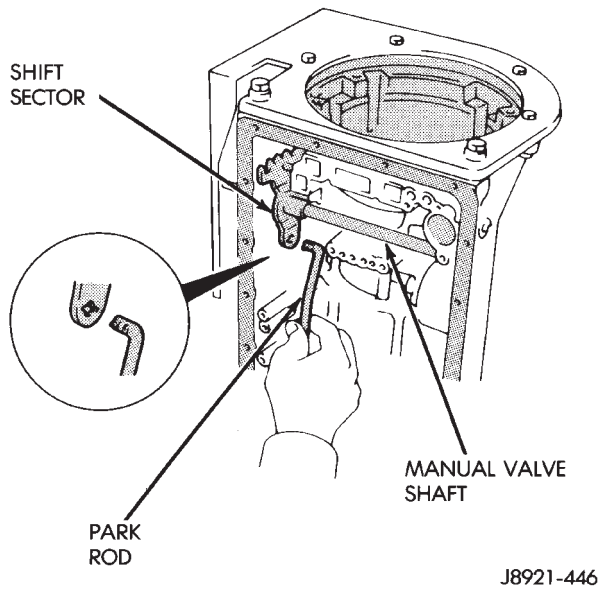
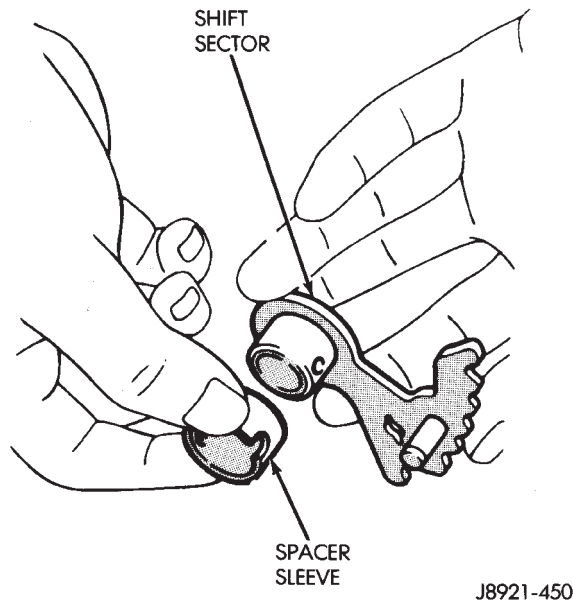

Fig. 21 Removing/Installing Park Rod
Fig. 25 Installing Spacer Sleeve On Sector
- (4) Remove park rod from shift sector (Fig. 21).
(11) Install new spacer sleeve on sector (Fig. 25).
(12) Lubricate manual valve shaft with petroleum jelly and install it in case.
(13) Lubricate sector and sleeve with petroleum jelly and install them on shaft.
(14) Align hole in spacer sleeve with notch in sector. Then install shift sector roll pin. Tap pin into sector and shaft and stake sleeve to sector and shaft securely.
(15) Connect park rod to sector (Fig. 21).